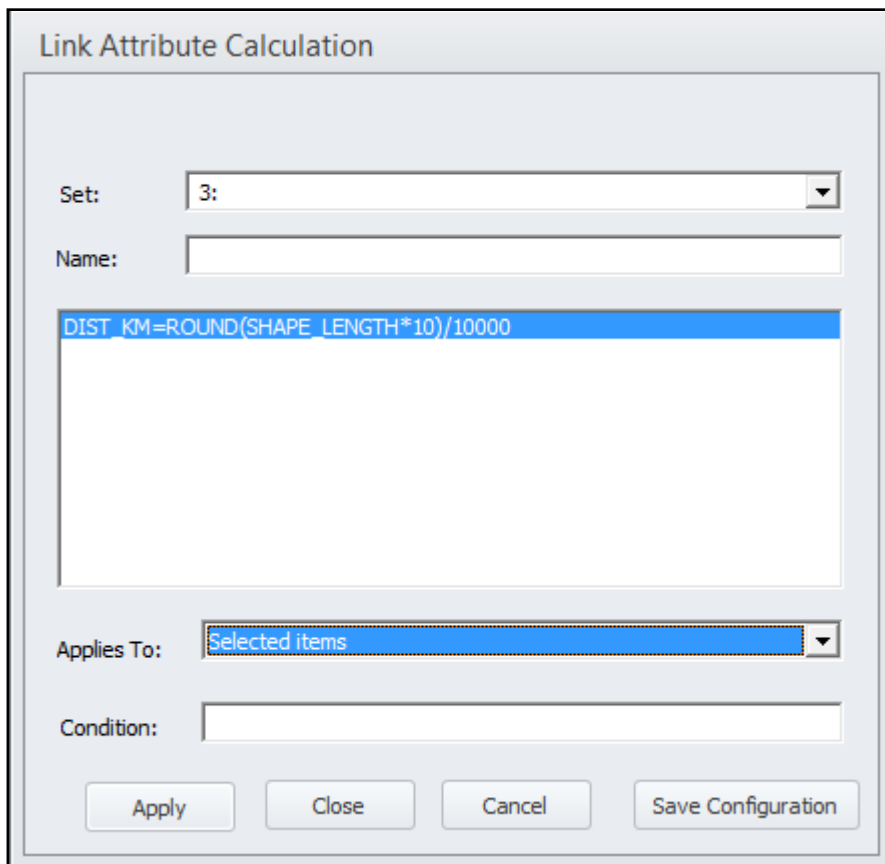

Figure 88 The Link Attribute Calculation window
- l) DIST_KM: update using the SHAPE_LENGTH value using Link -> Compute tool as displayed in Figure 88.